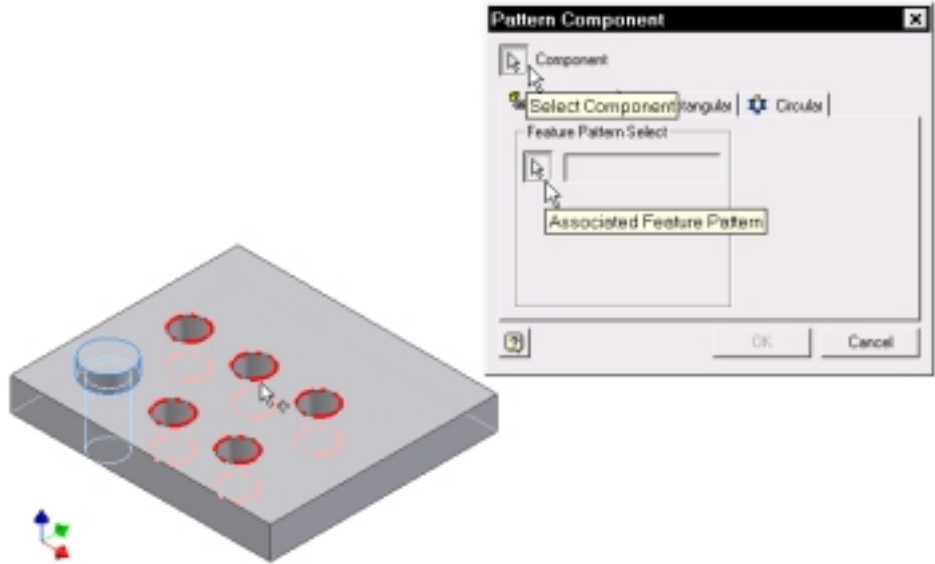

Figure 3-40
19. Select instance part and then the feature pattern. (See Figure 3-40.)